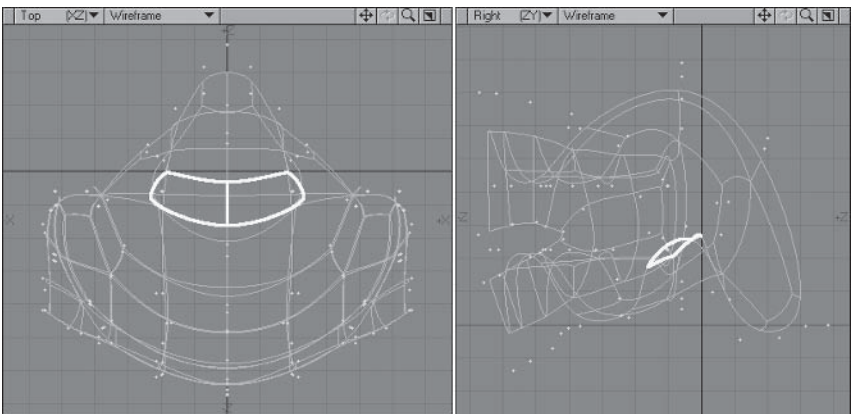

Figure 5.3-106. Creating the tongue.
2. **Super Shift** in place, then **Move** and adjust the polygons to match Figure 5.3-106.